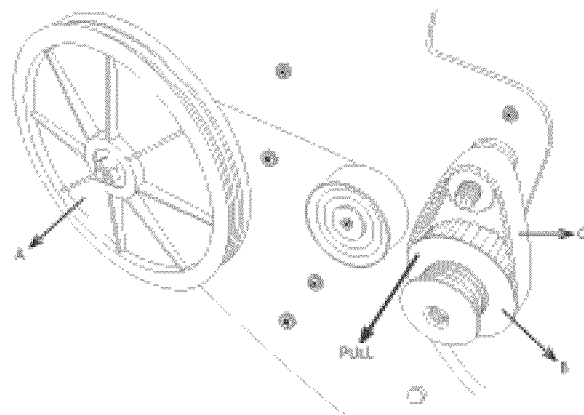

Figure 33
3. Pull the middle pulley toward you to remove the small belt (Fig. 33).